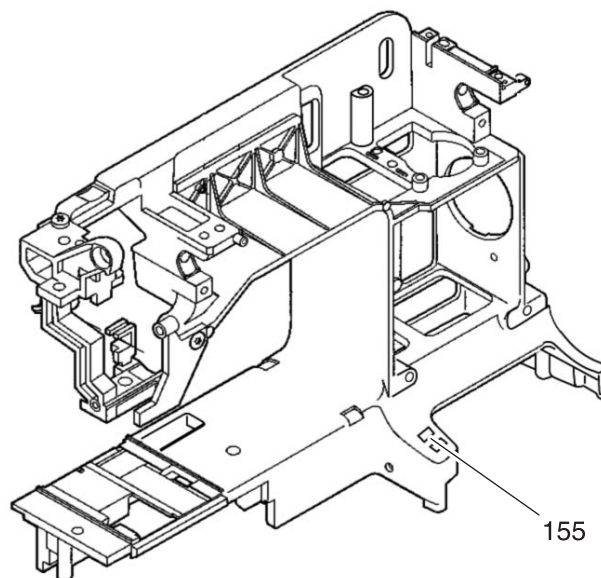

Fig. 101
- Cut off cable clip 155 with a knife (fig. 101).
- Insert cable clip 155 from the top and pull it together (fig. 101).